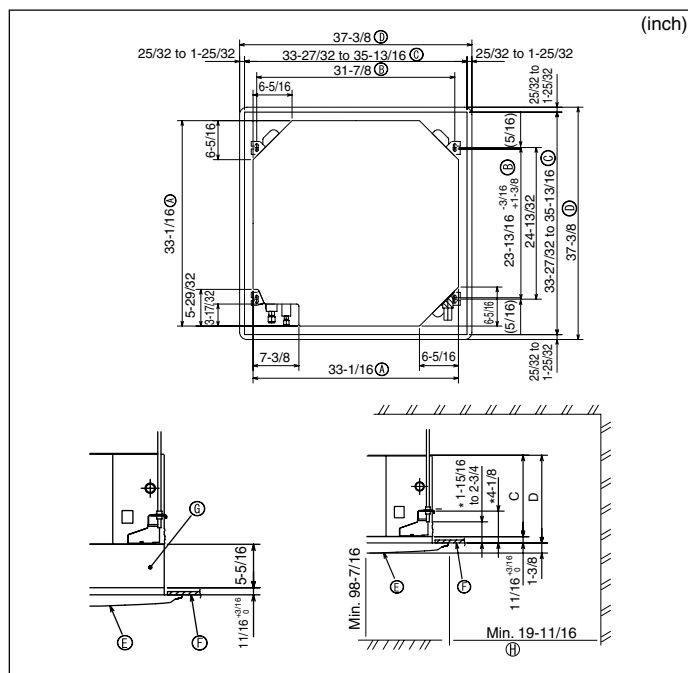

Fig. 3-2
3.2. Ceiling openings and suspension bolt installation locations (Fig. 3-2)
- The dimensions of ceiling opening can be regulated within the range shown in Fig.3-2; so center the main unit against the opening of ceiling, ensuring that the respective opposite sides on all sides of the clearance between them becomes identical.
- ① Outer side of main unit
- ② Bolt pitch
- ③ Ceiling opening
- ④ Outer side of Grille
- ⑤ Grille
- ⑥ Ceiling
- ⑦ Multi function casement (option)